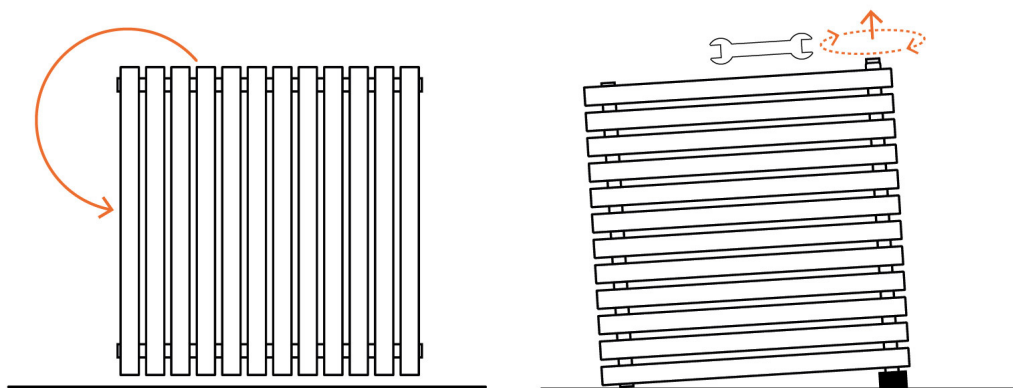

Figure 3 | Inlet tilted to its highest point before filling.
4. Tilt the radiator until the fitting location is at the highest point, as shown in **Figure 3**. This prevents any fluid escaping if your radiator is pre-filled.